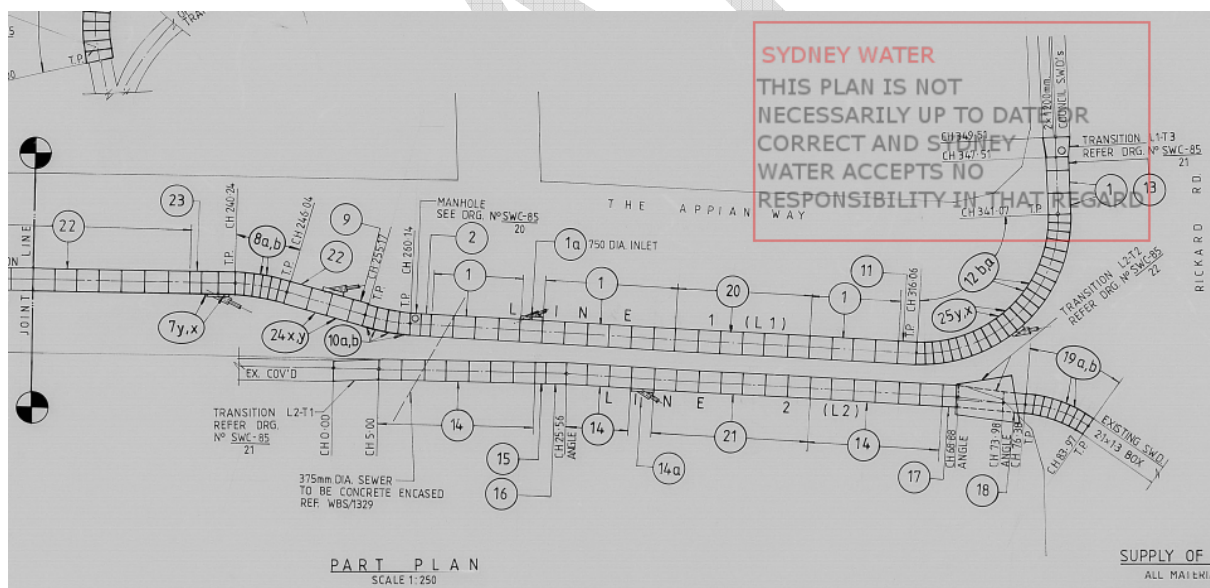

Figure 7-6 As built box culvert- extract from drawing SWC-85/18
- The box culverts have been constructed using a 250mm thick cast in-situ base slab and a precast unit placed over. As-built details of the box culvert have been obtained from MGP Pty Ltd (refer to as built drawing SWC-85/'8 Bankstown Drainage Salt Pan Creek SWC No 85 Stacey St- Appian Way BCH No85L & Meredith Street BCH No85P. Amplification & Diversion. General Arrangement). The box culverts have been designed to NAASRA T44 standard vehicle + impact and 0-2m of fill. A section of the culverts (sections 20 and 21), have been designed to SCC Mobile Crane outrigger load 150kN and 0-2m of fill (see Figure 7-6). Based on the design loads and subject to the condition assessment of the box culverts, it is not expected that the construction vehicles specified in section 4 would adversely impact the box culverts mentioned.